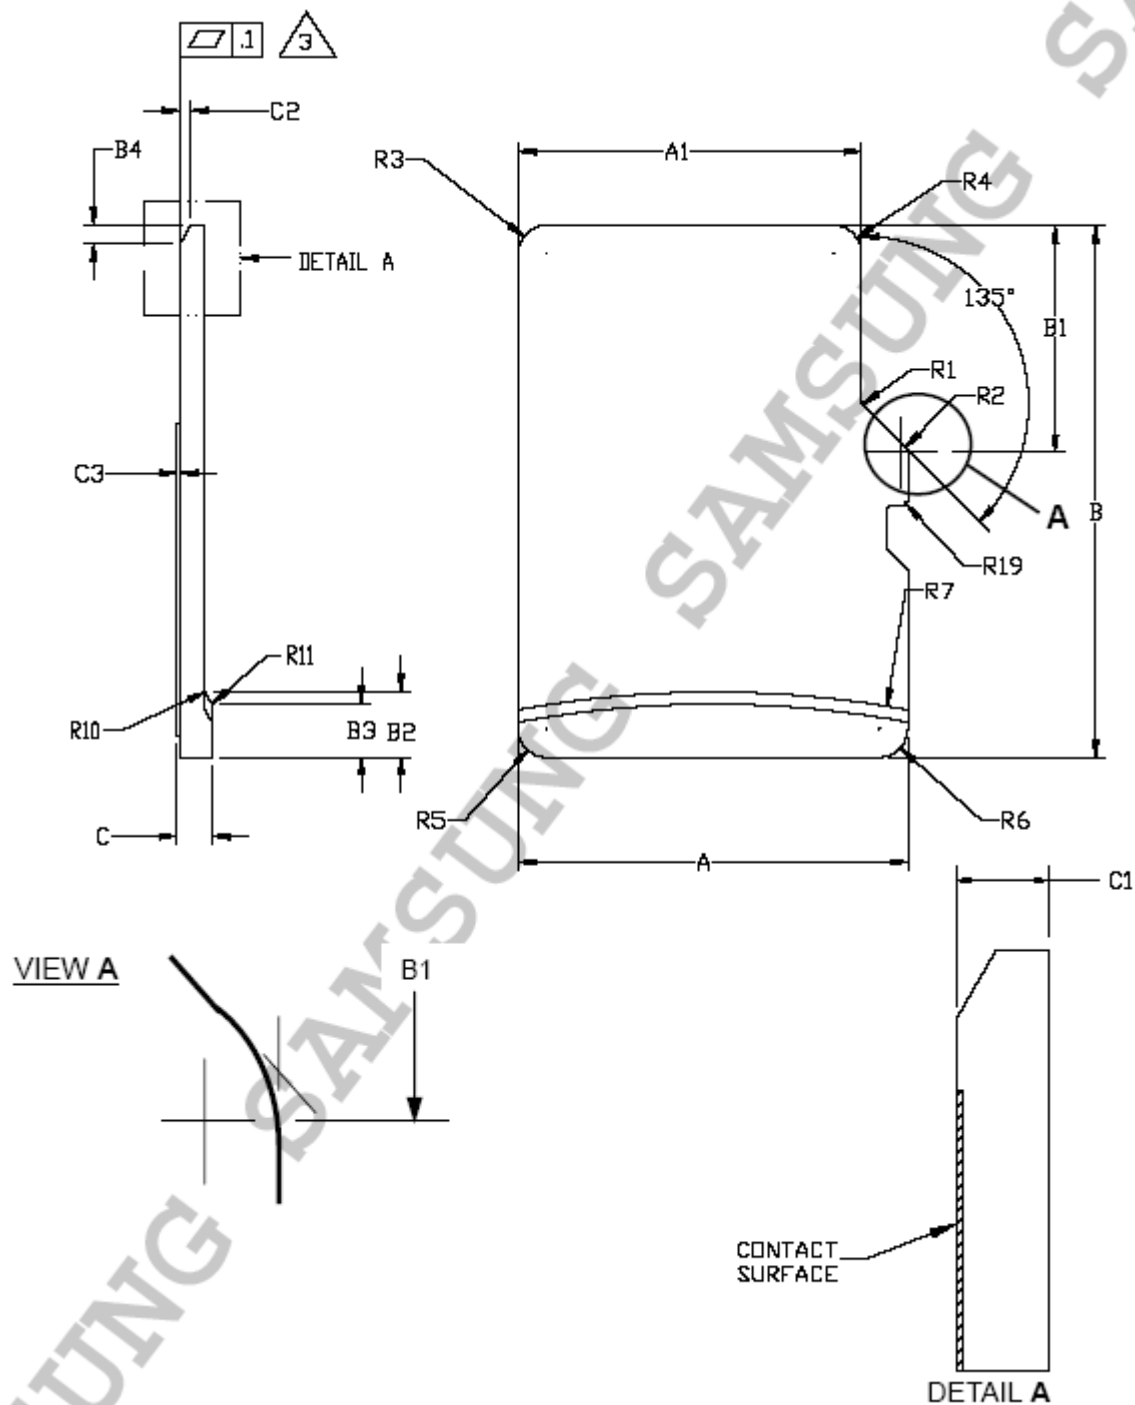

Figure 4-1 : Mechanical Description: Top View
Dimensions microSD Memory Card package	11mm x 15mm; (min. 10.9mm x 14.9mm; max. 11.1mm x 15.1mm) other dimensions see Figure 4-1 testing according to MIL STD 883, Method 2016
Thickness	'Inter Connect Area': 0.7mm+/-0.1mm see Figure 4-1 (C1) 'Card Thickness': 0.95mm Max see Figure 4-1 (C1 + C3) 'Pull Area': 1.0mm +/-0.1mm see Figure 4-1 (C)